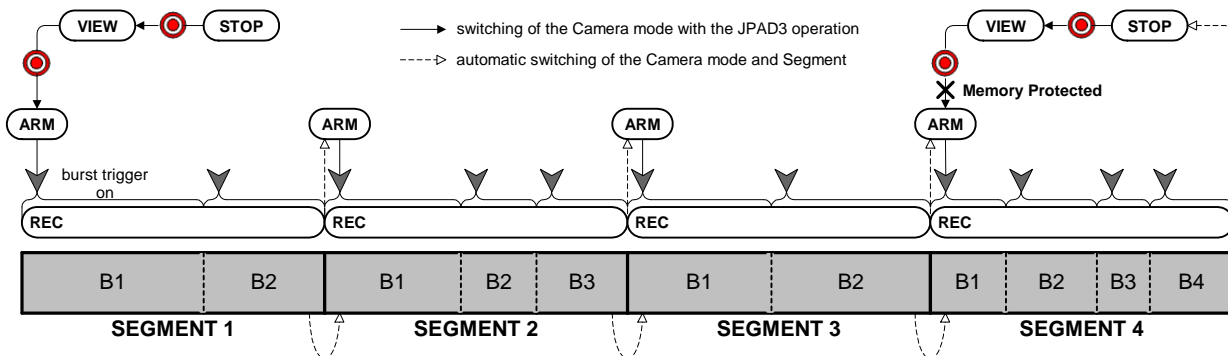

Figure 3-36 Burst Recording (BURST(A), Number of Segments : 4)
Figure 3-36 shows how to switch modes with the J-PAD3 during BURST(A) recording (top of the figure) and saving in the memory (bottom of the figure). BURST(A) refers to burst recording during the AUTO recording. B1, B2, B3 and B4 refer to the blocks of segmented memory corresponding to the burst trigger signals.